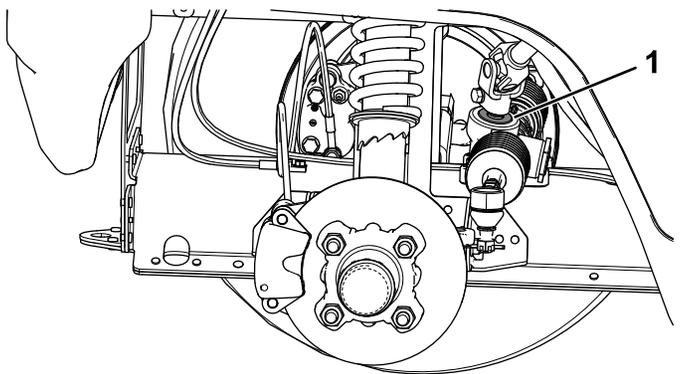

Figure 44
- **Important:** Inspect the condition and security of the pinion-shaft seal (Figure 44).